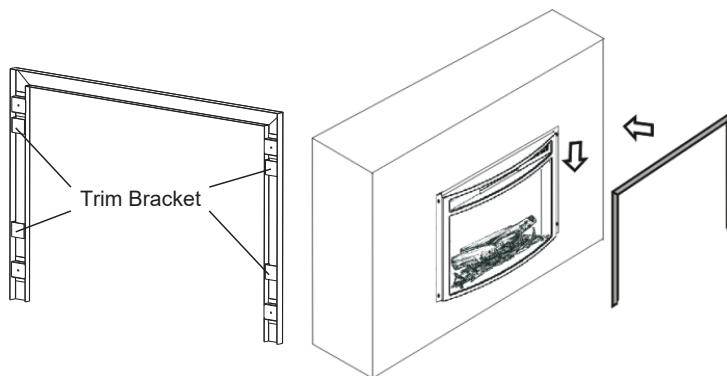

Figure 4
4. Clip the trim bracket onto the fireplace bracket, ensuring the trim is securely connected. [Figure 4]